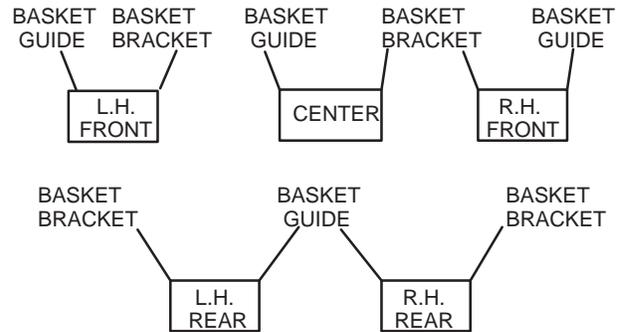
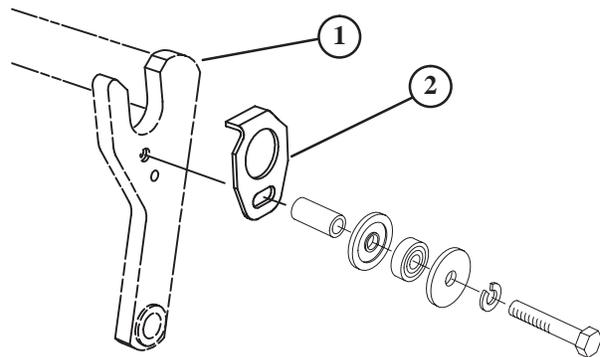
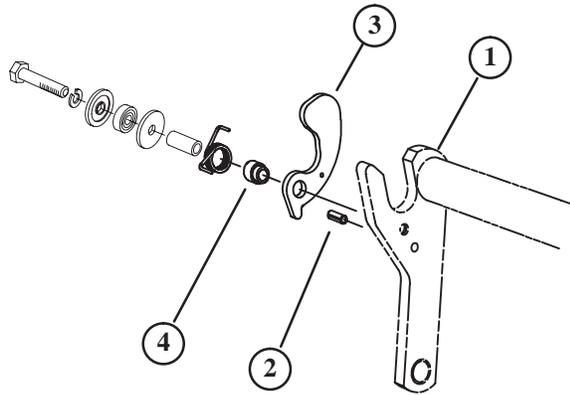
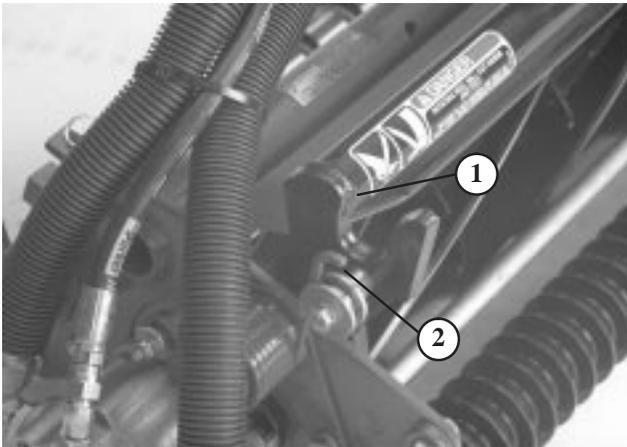

Figure 5
Figure 6
Figure 7
Figure 8
- If baskets will be installed, use chart below (Fig. 5) to determine locations at which basket guides or basket brackets must be mounted to cutting unit carrier frames. If baskets are not to be installed, proceed to step 7.
- Remove hardware securing Turf compensation kit to each end of carrier frame (Fig. 6 and 7) and reuse when installing basket guides and basket brackets (Cutting unit models 03506 and 03509 only).
- Mount a basket guide (Fig. 6) to the appropriate side of each cutting unit carrier frame (see Figure 7) with a capscrew (5/16 x 1-3/4 in.), flat washer, and lock washer or fasteners previously removed, as shown in Figure 6.
5. Install a roll pin (Fig. 7) into hole in appropriate side of each cutting unit carrier frame (Fig. 5).
6. On the same side of carrier frame as roll pin is installed, mount a basket bracket with a capscrew (5/16 x 1-3/4 in.), lock washer, flat washer, torsion spring, basket collar, or fasteners previously removed, as shown in Figure 7. Torsion springs are different for left-hand and right-hand sides of carrier frames. There are 2 left-hand and 3 right-hand springs. Longer leg of spring is to be positioned forward as shown in Figure 8.